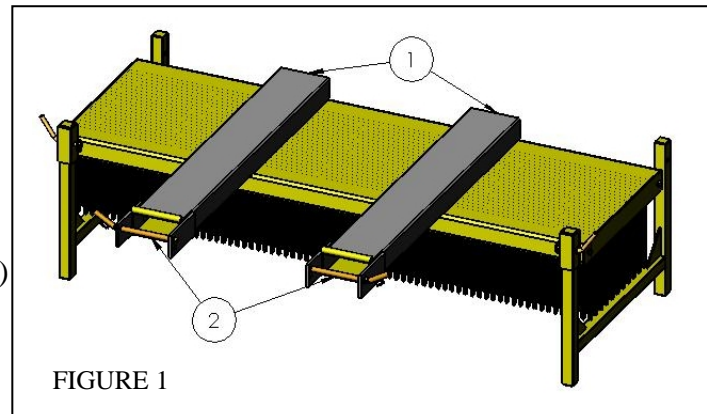

FIGURE 1
1. Align forks with tine boxes.(FIG 1)
2. Enter until fully home.(FIG 1)
3. Secure tines with retaining pins.(FIG 1)